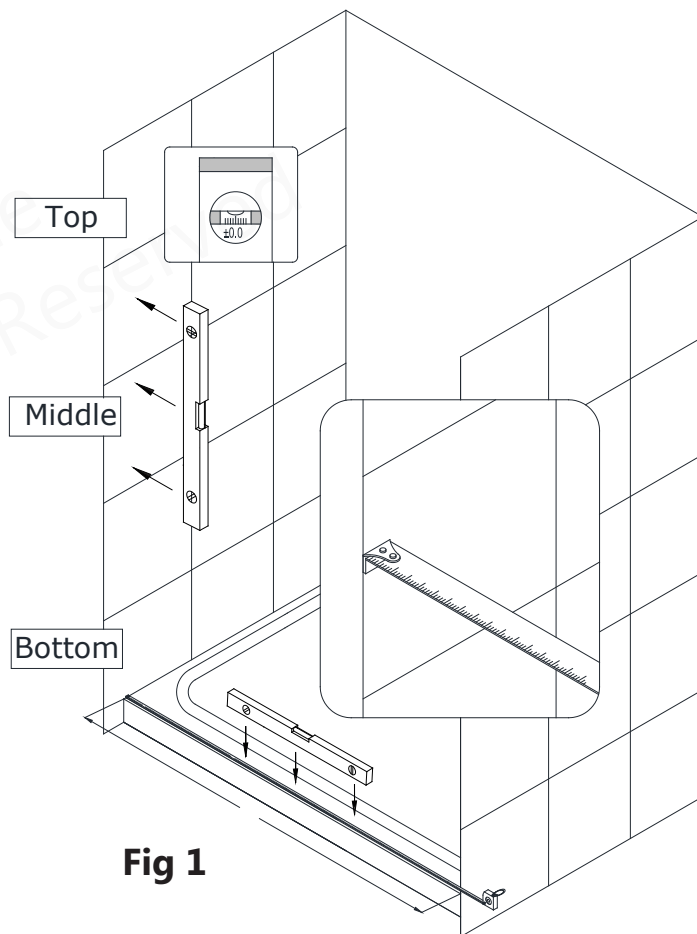

Fig 1
1. Check both finished walls to make sure they are plumb and check the threshold to make sure it is level across the opening. **(Fig 1)**